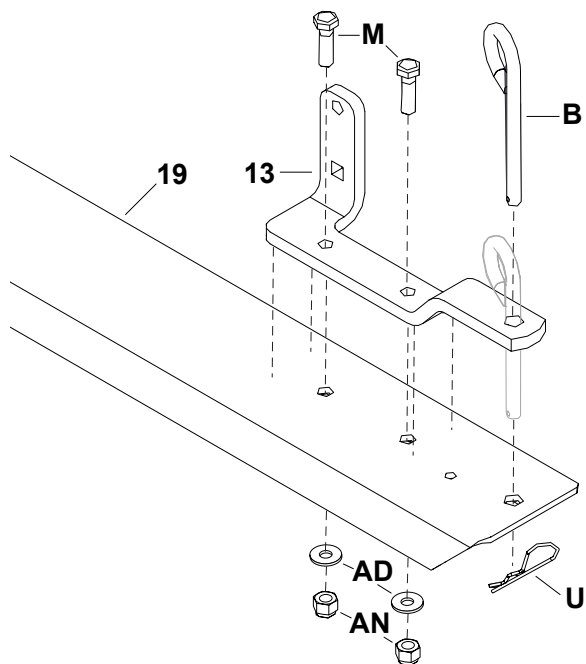

FIGURE 1
- Install two 3/8" x 1-1/4" bolts (M) through the hitch stand bracket (13) and the front tongue assy. (19).
- Secure the two bolts (M) with two 7/8" washers (AD) and 3/8" nylock nuts (AN) on the bottom side of the front tongue assy. (19).
- Place the 3/8" x 3" pin (B) into the front hole on the hitch stand bracket (13) and secure using a 5/32" x 3" hair cotter pin (U). See figure 1.